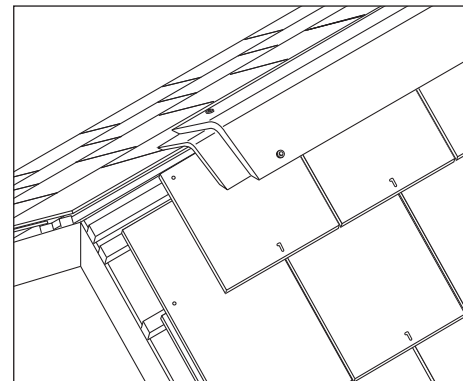

Fig. 22 – Ridge finished with duo pitch ridge units\*
- 7 Locate successive ridge units along the roof apex, drill and screw to the ridge fix battens, ensuring a level ridge with joints bedded on butyl strip (Fig. 22).